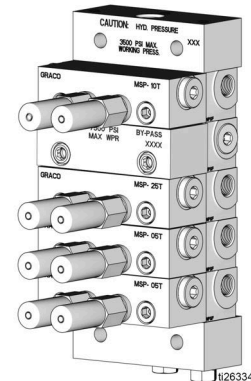

FIG. 14:
NOTE: Refer to the MSP Divider Valve Assembly Table and MSP Divider Valve and Lube Points Assembly reference illustrations, FIG. 11 - FIG. 14 (page 20), to verify assembly orientation.
8. Install outlet plugs in all open ports as shown in the MSP Divider Valve Assembly reference illustrations (FIG. 11 - FIG. 14) on page 20.
Secondary: No Tailgate Lubrication (FIG. 14)